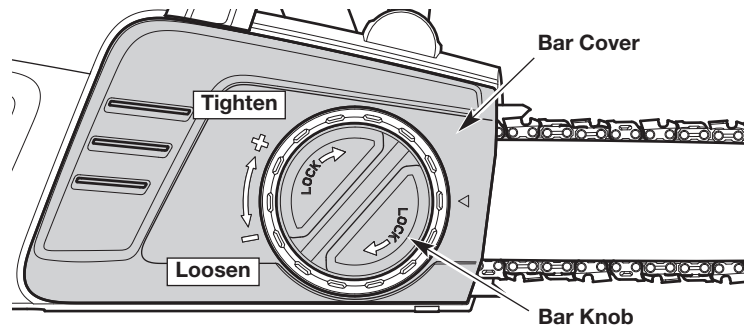
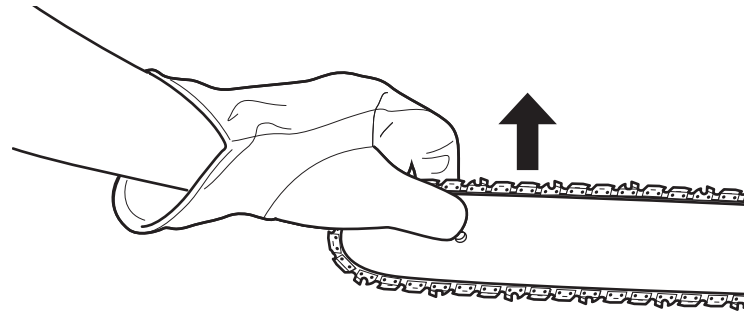
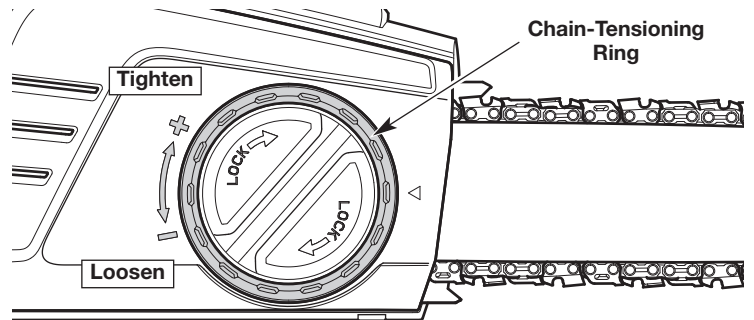
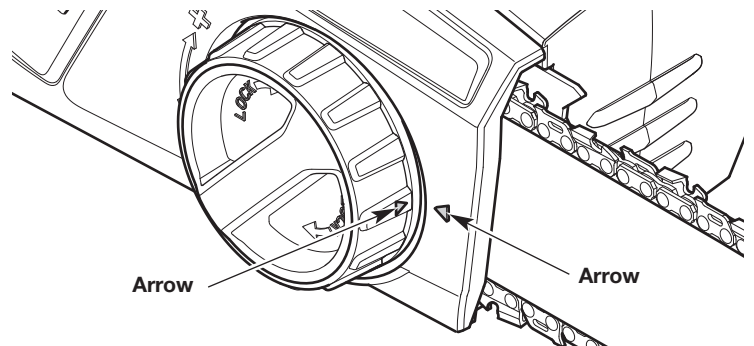

Fig. 39
Fig. 40
Fig. 41
Fig. 46
1. Turn the bar knob counterclockwise to slightly loosen the bar cover (Fig. 39). **DO NOT** remove the bar cover.
2. Hold the guide bar tip up (Fig. 40) and turn the chain-tensioning ring to adjust the tension (Fig. 41).
3. Continue to hold the guide bar tip up (Fig. 40). Turn the bar knob clockwise to securely tighten the bar cover (Fig. 39).
1. Turn the bar knob counterclockwise to loosen the bar cover (Fig. 39).
5. Turn the chain-tensioning ring (Fig. 41) until the arrow on the chain-tensioning ring aligns with the arrow on the bar cover (Fig. 46).
7. Turn the chain-tensioning ring (Fig. 41) clockwise until the bar cover is connected to the motor housing and the guide bar begins to move forward.
8. Turn the bar knob clockwise to tighten the bar cover (Fig. 39). **DO NOT** tighten the bar knob completely.
10. Hold the guide bar tip up (Fig. 40). Turn the bar knob clockwise to securely tighten the bar cover (Fig. 39).